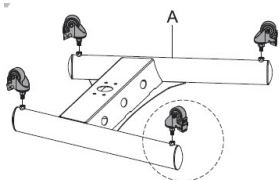

Figure 1
1. Flip the **Base (A)** upside down and place it onto a clean and flat surface. (Figure 1)